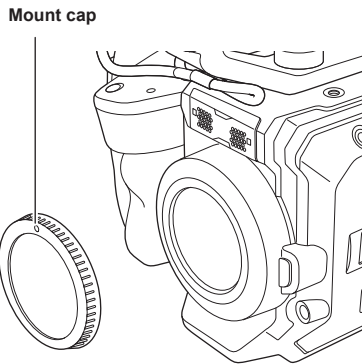

Fig. 1
- 2** Remove the mount cap. (Fig. 1)